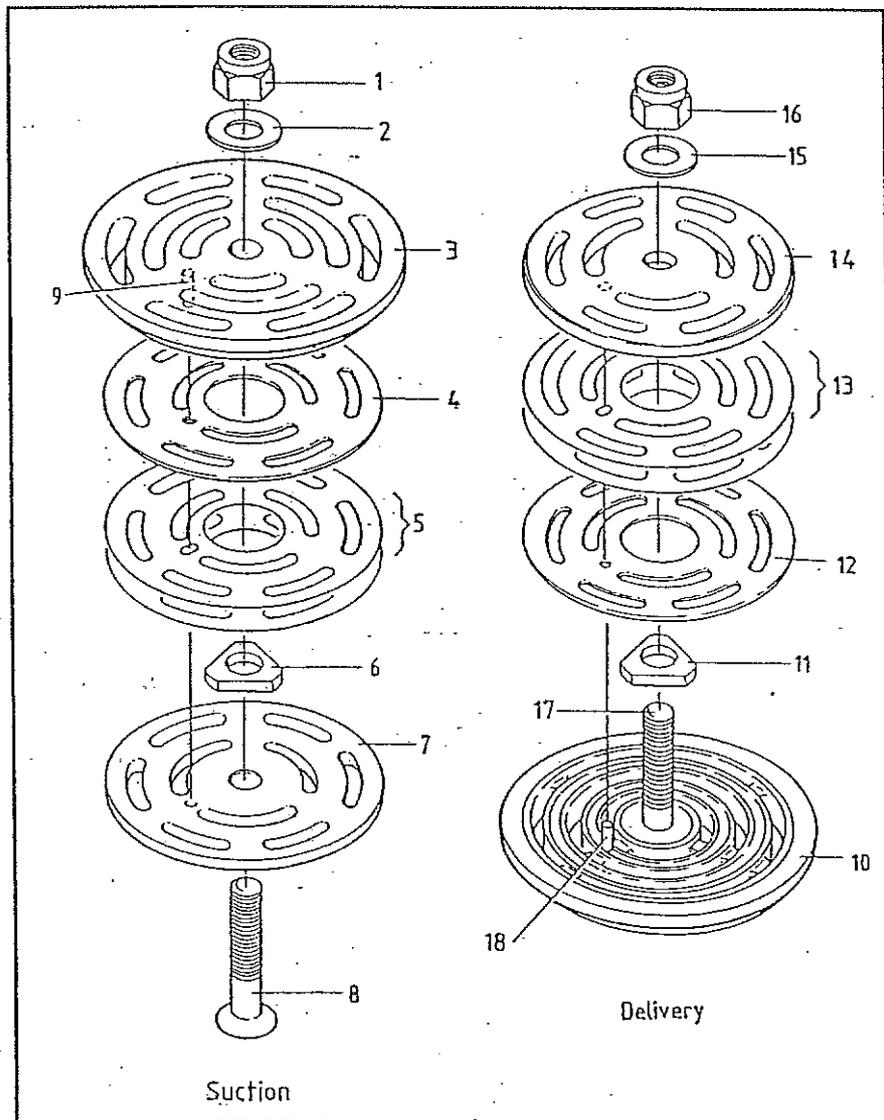

FIGURE 13-8 FIRST STAGE VALVES
### 13.3.3.3 FIRST STAGE DELIVERY VALVE OVERHAUL (FIGURE 13-8)
(19) with the hole in plate (12) NOT with the slots. Fit spacer (11). Arrange springs (13) as shown in Figure 13-8 and place on the valve plate, engaging with the locating pin as for the plate. Centralize the plate and springs. Taking extreme care not to disturb the springs, fit guard (14), engaging locating pin with corresponding hole in the base-plate. Holding the components firmly together, fit nut (16) and washer (15). Tighten nut.
### FIRST STAGE SUCTION VALVE OVERHAUL (FIGURE 13-8)
Place valve seat (3) on a tubular support. (Note that this is not part of the valve assembly) with peg (9) uppermost. Fit spacer (6) and valve plate (4) engaging peg (9) with the hole in plate NOT with the slots. Arrange springs (5) as shown in Figure 13-8 place on the valve plate. Centralize plates and springs. Take extreme care not to disturb hole in the guard. Holding the valve components firmly together, pass stud (8) through the assembly, lift from the support and fit nut (1) and washer (2). Tighten nut.